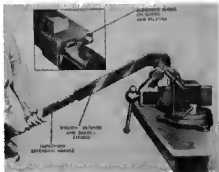
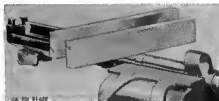

Figure 91. Assembling barrel to receiver.
Figure 92. Checking barrel end receiver alignment.
a. Replacing Barrel. Select proper barrel and receiver combination so that about 1/16-inch draw is obtained when assembled. Screw the receiver on the barrel with receiver and barrel wrench 7113308 draw up receiver until alignment marks on barrel and receiver (Fig. 91) coincide. Then determine that the flat surfaces on bottom of barrel and receiver are parallel. Check this by indicator or placing two bars, about 10 inches long, in position as illustrated in figure 92; and sight over the edges. When the two bars lie parallel, the barrel and receiver are in exact alignment for proper functioning.